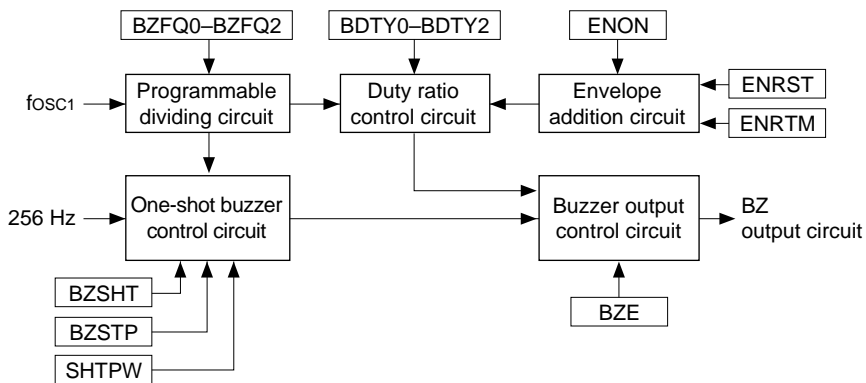

Fig. 4.12.1.1 Configuration of sound generator
The E0C63P466 has a built-in sound generator for generating buzzer signals. Hence, generated buzzer signals (BZ) can be output from the BZ terminal. Aside permitting the respective setting of the buzzer signal frequency and sound level to 8 stages, it permits the adding of a digital envelope by means of duty ratio control. It also has a one-shot output function for outputting key operated sounds. Figure 4.12.1.1 shows the configuration of the sound generator.